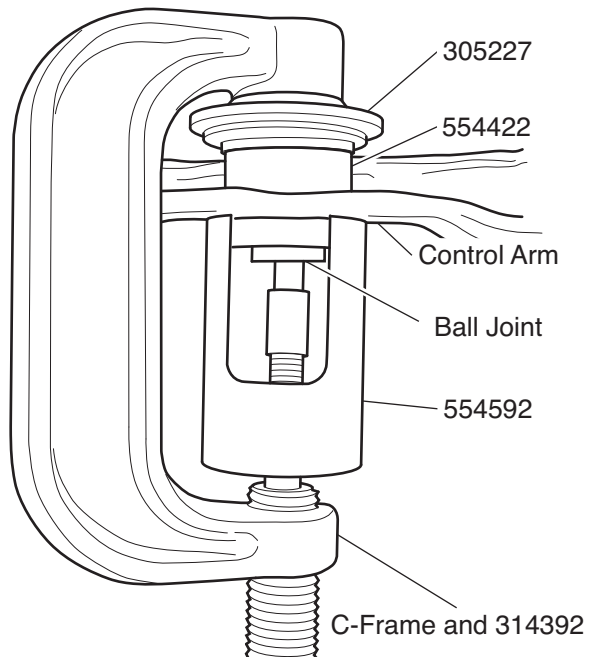

Figure 2. Ball Joint Installation
3. Position 305227 and 554422 (or 554414) on the ball joint as shown in Figure 2.